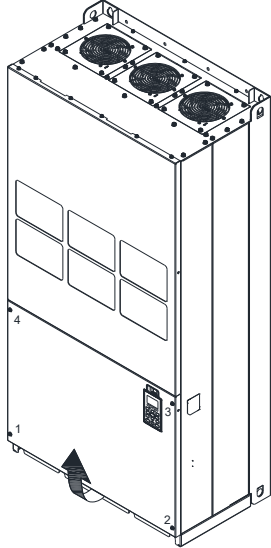

Figure 1
1. Loosen the screw 1–4 and remove the top cover (figure 1) Screw torque: 14–16 kg-cm / [12.2–13.9 lb-in.] / [1.4–1.6 Nm]